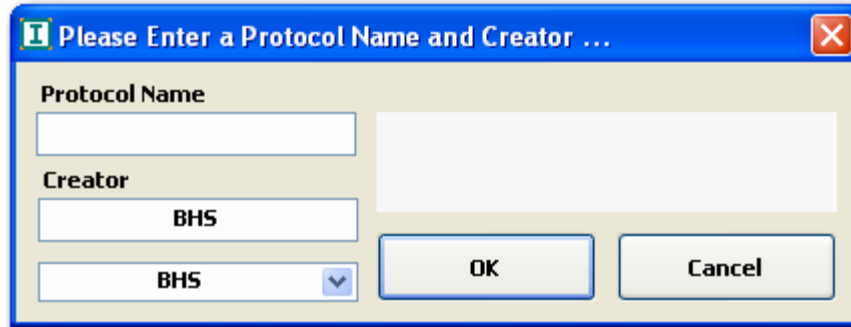

Figure 56 Protocol dialog box
3. Press **Save Protocol** to the right of protocol Query (Figure 55). A dialog box (Figure 56) will appear.